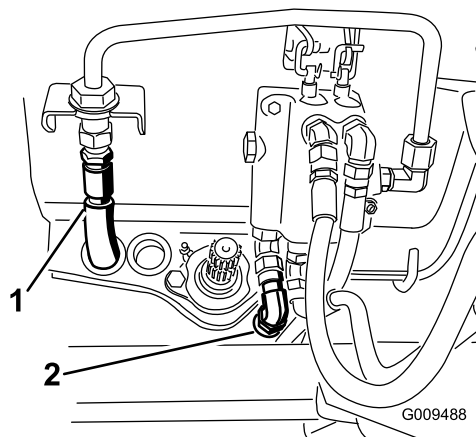

Figure 27
14. Connect the hydraulic pressure hose to the valve hard line and the tank hose to the valve (Figure 27). Retain the hose plugs for the summer change over.